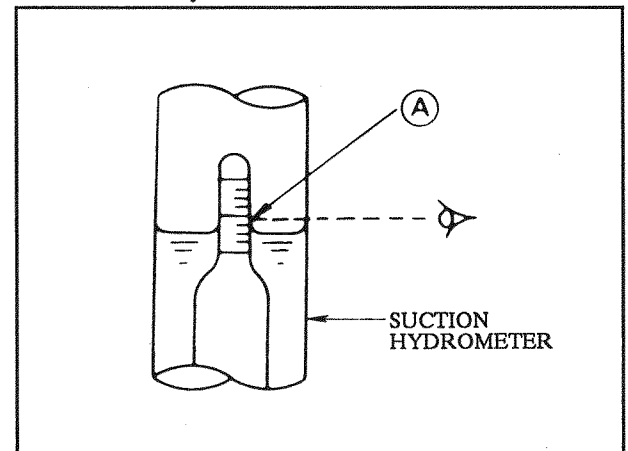

Fig. 11.154 Check
- ① Using a suction hydrometer, such up the electrolyte, and read the graduation (A) shown in Fig. 11.154.
- ② Measure the temperature (°C) of electrolyte.
- ③ Convert the measured specific gravity into one at the standard-temperature (20°C), using the following formula: